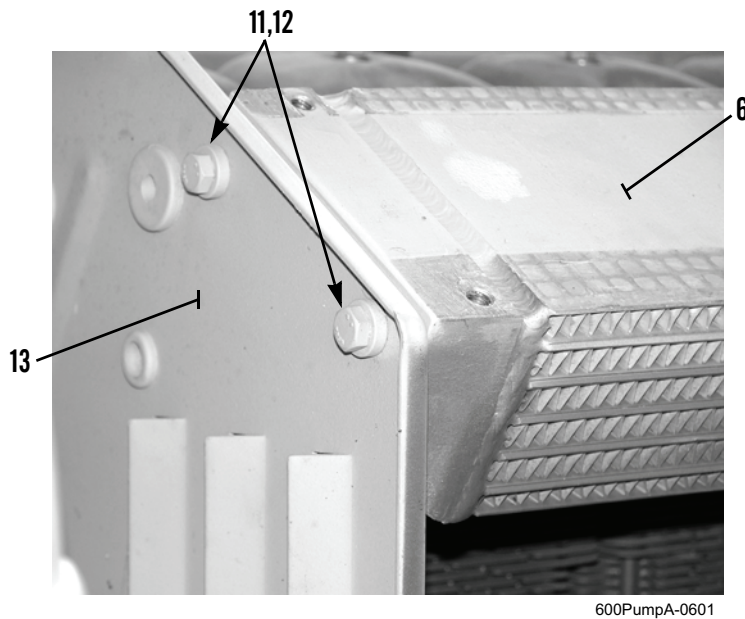

Figure 7. Oil Cooler.
4. Secure oil cooler (Figure 7, Item 6) to rear air duct wall (Figure 7, Item 13) with two washers (Figure 7, Item 12) and bolts (Figure 7, Item 11).